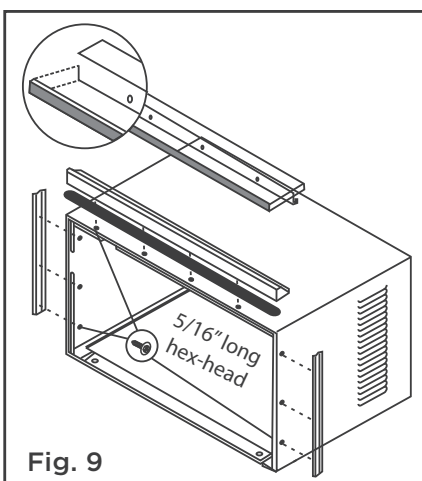

Fig. 9
1. Attach foam gasket to top rail above holes as shown in Fig. 9.
2. Install top rail and side retainers to cabinet as shown in Fig. 9.